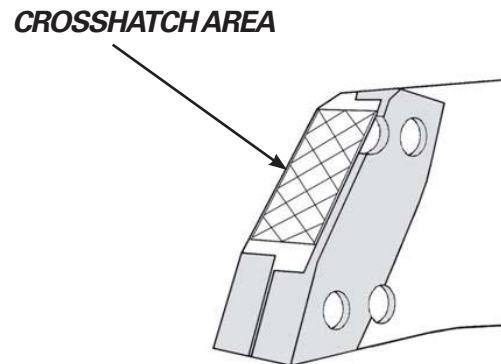

FIGURE 5-20
The area shown in **Figure 5-20** must be inspected daily, and maintained whenever the crosshatch pattern is almost worn down to the base metal surface. If you have any questions regarding this information, please call the Stanley LaBounty Service Department at (218)-834-6901.
If, as a result of production considerations, the crosshatch pattern has been worn down into the base metal of the shear upper jaw, the Saber Tip can be used as a guide for build-up to proper profile prior to applying new hardsurfacing. If the edge of the Saber Tip has been worn, it will be necessary to remove the tip, rotate to the new front edge, and bolt into place. The surface of the upper shear face should be built up (using E-7018 welding rod, or E-70 series wire-following pre-heat procedures) to conform in profile to the new Saber Tip edge. Depending upon the model, this surface should be flush with the Saber Tip edge to 1/16" above the edge. Once the surface has been built up and ground to profile, the crosshatch hardsurface pattern can be applied. Use 1 1/2" spacing in the crosshatch hardsurface pattern, as shown in **Figure 5-20**.